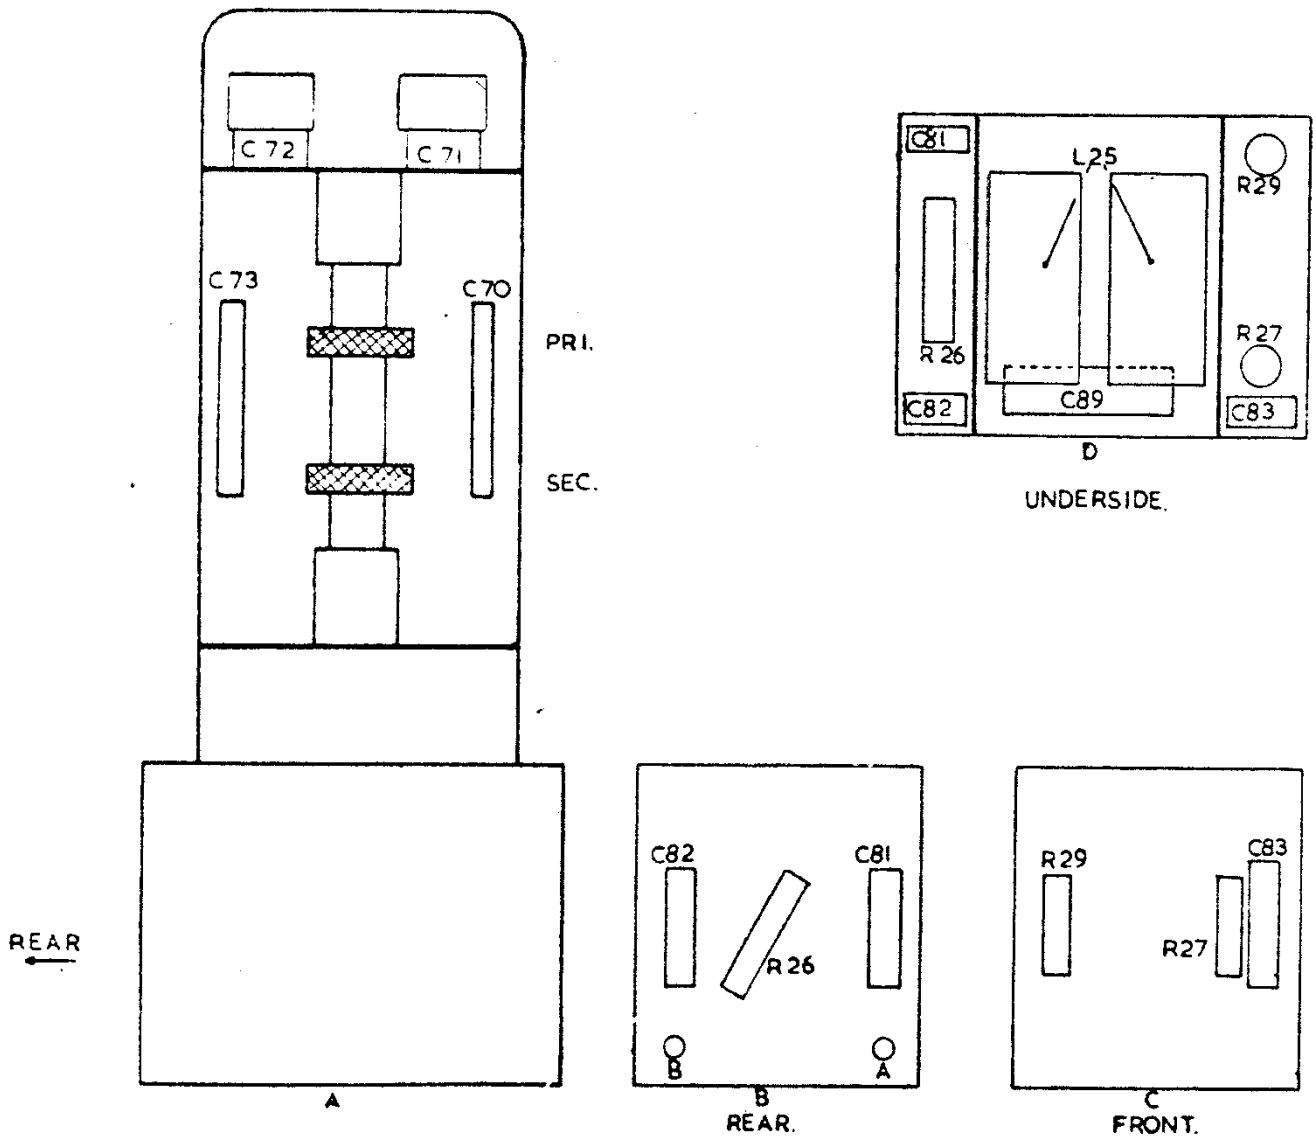

FIG.2. INSIDE THE THIRD I.F. TRANSFORMER AND COMPONENTS MOUNTED INSIDE THE PEDESTAL.
- Fig. 2. Inside of the third I.F. Transformer